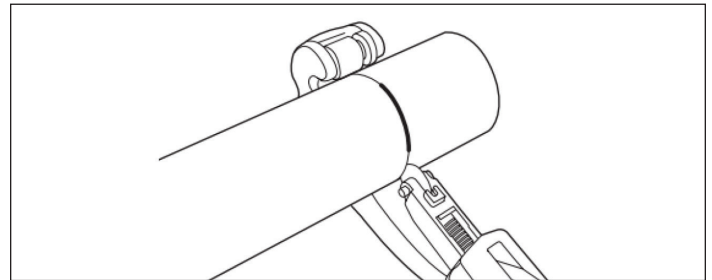

Figure: 1-2
4. Using the appropriate tubing cutter with **TracPipe** cutting wheel, score the black jacket approximately three quarters of the way through. Use extreme care NOT to cut or score the stainless corrugated pipe! (Figure 1-2)